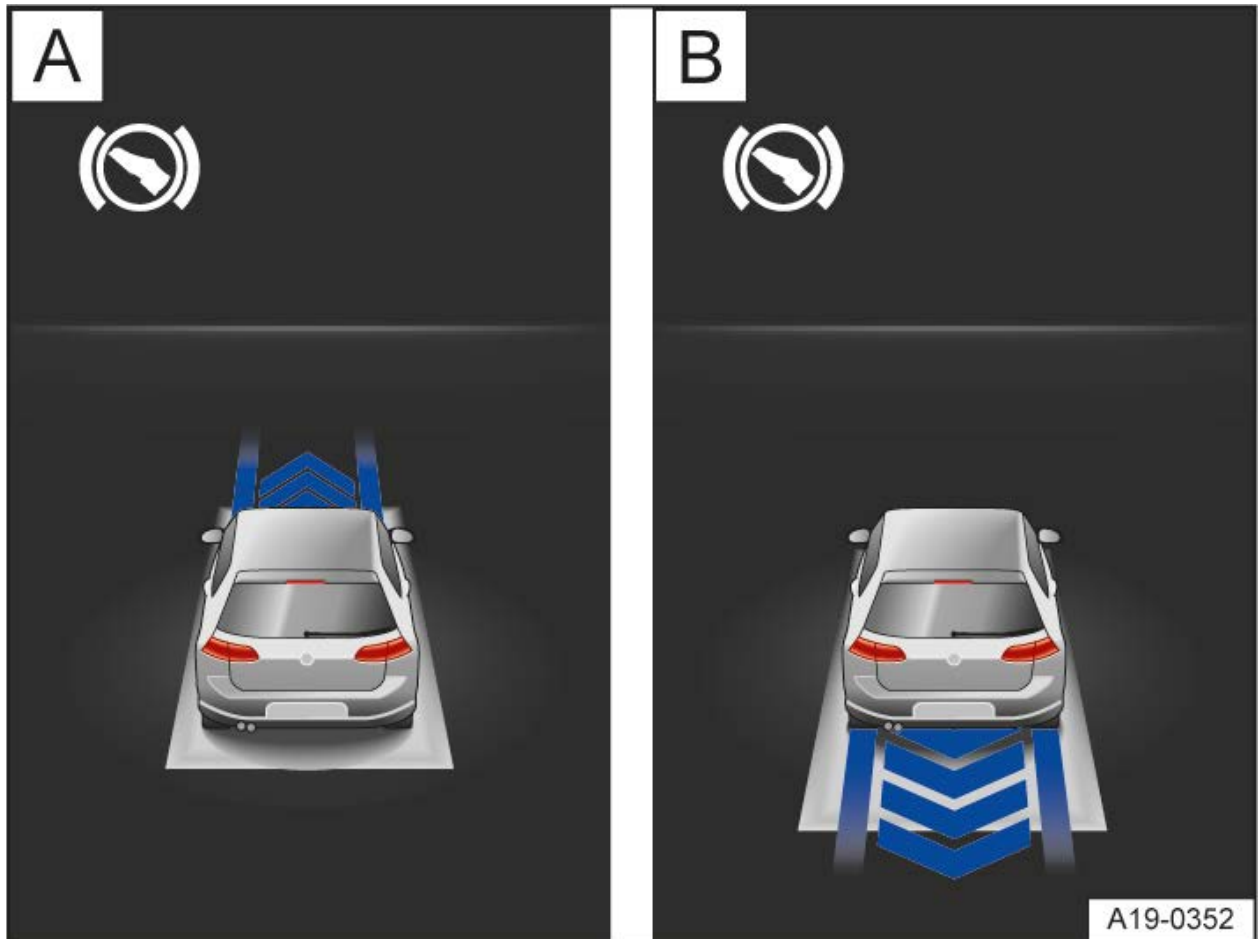

Fig. 2 On the instrument cluster display: Prompt for changing driving direction
- If a change of driving direction is shown in the instrument cluster, brake and change gear accordingly → fig. 2.